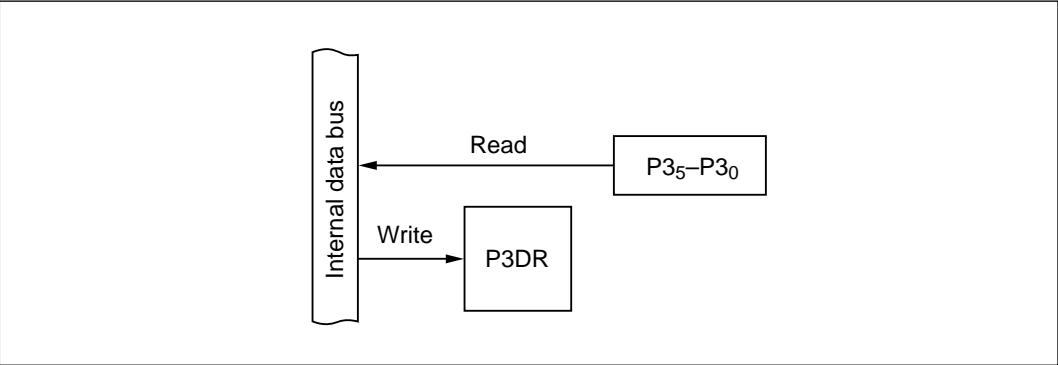

Figure 10-17 Input Port (Modes 1 to 7)
(1) **Input Port (Modes 1 to 7):** Figure 10-17 shows a block diagram illustrating the general-purpose input function. Table 10-12 indicates register read/write data. Values written in the port 3 data register (P3DR) have no effect on general-purpose input lines. When read, P3DR returns the value at the pin.